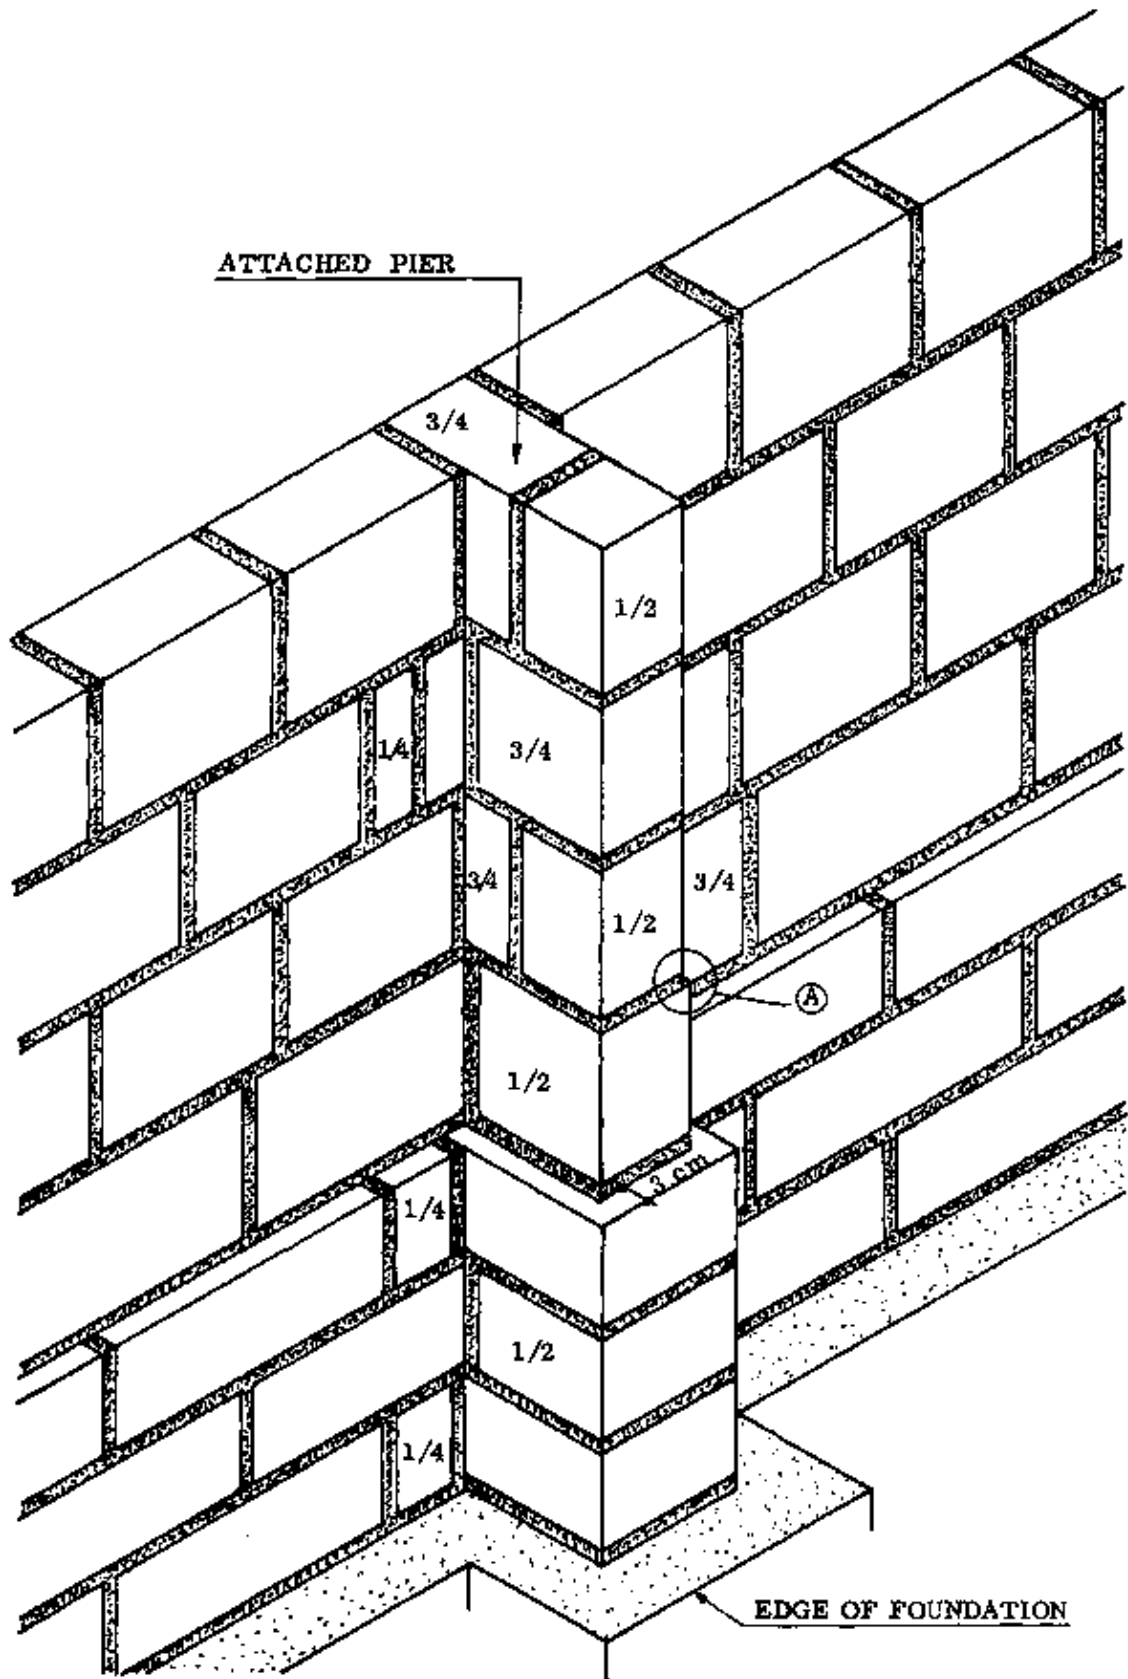

Fig. 1
The construction of an attached pier is very similar to that of a T–junction. The only difference is that the wall which joins the front wall is very short, and with a stopped end, thus forming an attached pier (Fig. 1).
– NOTE: The plinth course is set back everywhere from the footings by 4 cm, except on the back side of the attached pier where it is set back only 3 cm (Fig. 1).